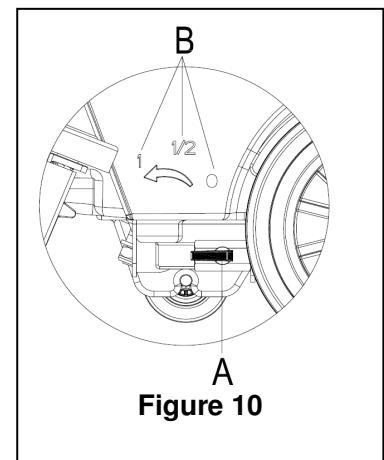

Figure 10
Regulating the ball valve handle (A, Figure 10) must be done under the condition when the power switch (41) is in the "Off" position.
- The volume of the water flow may be adjusted through the ball valve handle (A, Figure 10) according to the amount of water required for your scrubbing application.